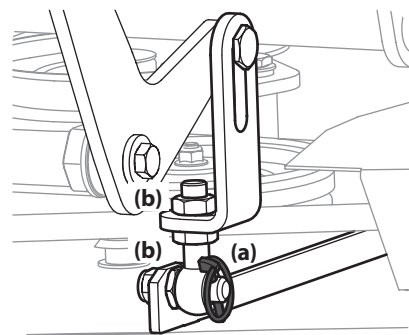

Figure 42
3. Adjust the eyebolt (a) at the left front of the deck so that the blade-to-ground height at the right outside blade tip matches that of the left outside blade tip. This is done by loosening the jam nuts (b) on the eyebolt (a) and tightening the upper jam nut (b) to raise the deck and loosening the jam nut (b) to lower the deck. The right outer blade tip height is fixed by the right, front eyebolt (a) so you must adjust the left outer tip to match it. See Figure 42.
4. Once the proper adjustment is made, re-tighten the jam nuts (b). See Figure 42.
3. Loosen the jam nuts (b) at the rear left and right of the deck eyebolts (a). Refer to Figure 42.
4. Start at the rear right to raise the rear of the deck, tighten the upper jam nut (b) to raise the deck or loosen the upper jam nut (b) to lower the rear of the deck. Refer to Figure 42.
5. Adjust the jam nut (b) at the rear left to take the "slack" out of the threaded rod. Refer to Figure 42.
6. Tighten both lower jam nuts (b) to secure the deck adjustment. Refer to Figure 42.
7. The final adjustment would be to take the "slack" out of the left rear linkage if the rear of the deck was raised by adjusting the jam nuts (b) on the eyebolt (a). Loosen the jam nuts (b) and tighten the upper jam nut (b) to remove "slack". Refer to Figure 42.
8. In many cases it will be necessary to adjust deck height using both eyebolt (a) adjustments and pitch adjustment to achieve the correct blade-to-ground heights. If you remember that the front right blade tip adjustment is fixed and you level to that height, adjusting the deck will be simplified. Refer to Figure 42 on page 26.